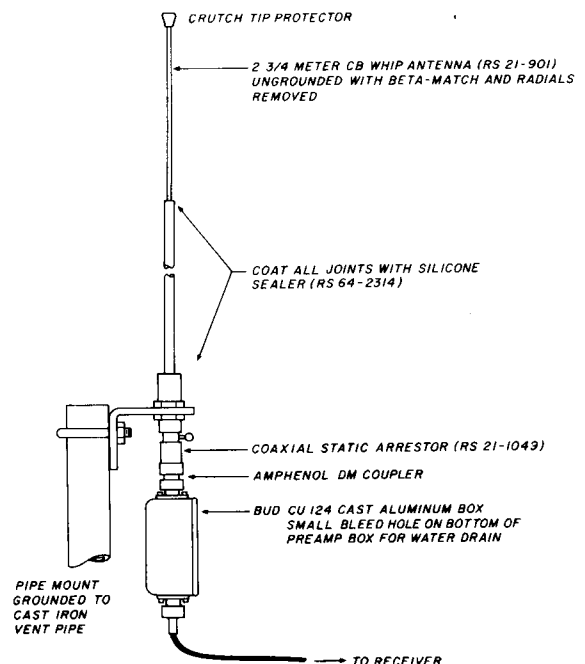

fig. 3. Vlf/low-frequency antenna and preamplifier mounting details.
A standard 2-3/4 meter (108-inch) CB whip is used for the antenna, with the preamplifier mounted as shown in **fig. 3**. The antenna should be vertical and in the clear above the immediate terrain if possible. The higher the antenna is mounted, the less will be
Audio rectification is caused by some nonlinear element or corroded joint and a parallel ground loop where some of the dc current for operating the preamp is being modulated. In one case, on a flat roof building, connecting the antenna mounting to a supposedly conducting member of the roof structure resulted in high broadcast noise pickup at the receiver. The problem was solved by isolating the preamp ground return from the antenna-mount lightning arrester ground such that there is no direct dc connection at the roof. The preamp box "floats" at the end of the coax cable and there is no chance of the roof truss ground providing parallel ground currents along the cable to generate additive or cross modulation effects. This can be done in fig. 3 by substituting a tight jam-fit plastic pipe coupling for the
Tables 2 and **3** show the materials and tools you'll need for making the connectors. **Fig. 3** illustrates the raw parts needed for the suggested Amateur design, denoted A, B, and C, D, and G. **Fig. 3** also suggests not only the assembly steps, but interrelated with the following text, features and mechanics of fabrica-
Steps for making your coax connector are given below. Refer to **fig. 3** as you proceed.
1. Using a tubing cutter, make a cut through the vinyl cable jacket and seamless-tubing shield about 15-25 cm (6-10 inches) from the cable end.* Then, using a fine-blade hacksaw, cut through the dielectric and inner conductor. Make the cut flush with the outer surface of the cable. Remove aluminum filings from the dielectric surface. E of fig. 3 shows what it should look like.